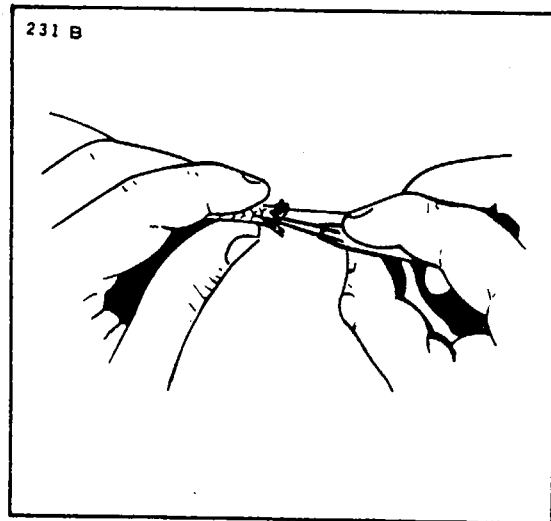

Figure 8-22. Unbraiding Metallic Shielding
9. Using a scribe or similar pointed tool, unraid .375 inch of braided shielding. (Refer to Figure 8-22.) Wrap a single thickness of electrical tape around unbraided strands to facilitate insertion of lead end thru hole in cable outlet plate.